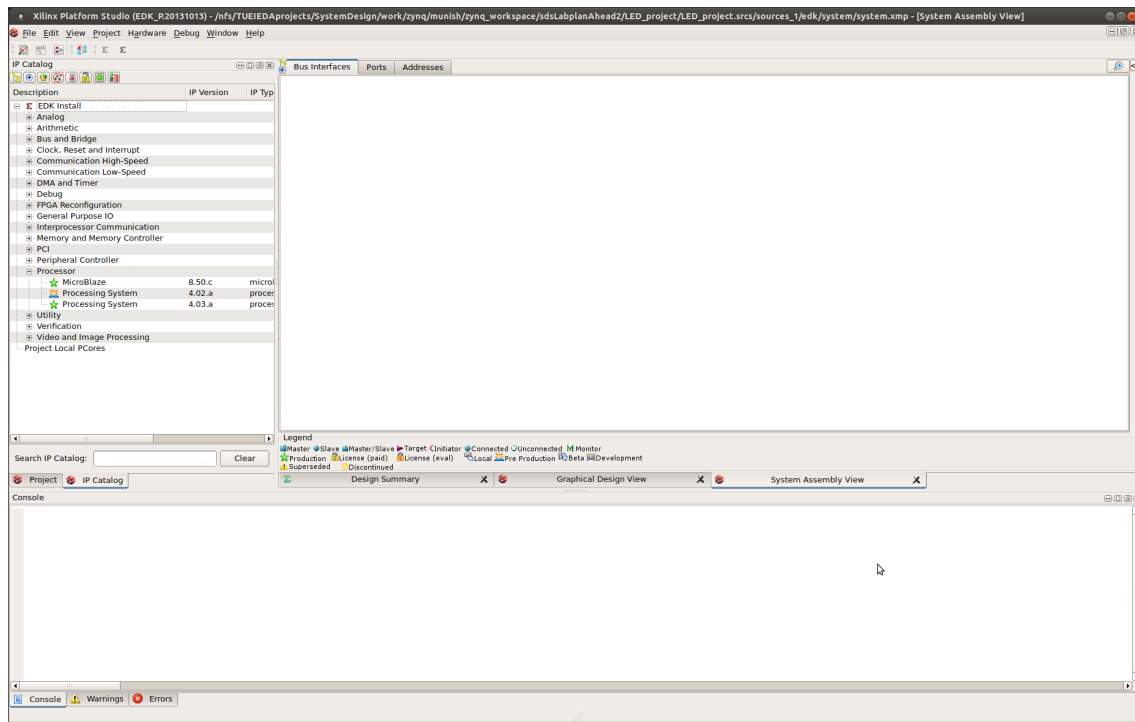

Figure 4.3.: XPS window.
4. Click *Finish*, this will automatically invoke XPS tool. It will ask to start with "BSB wizard", click *No*. XPS will prompt to add Processing System7 instance to the system. Click *No*, because we will add it manually later in this lab. Now you should see the XPS window as shown in Figure 4.3.